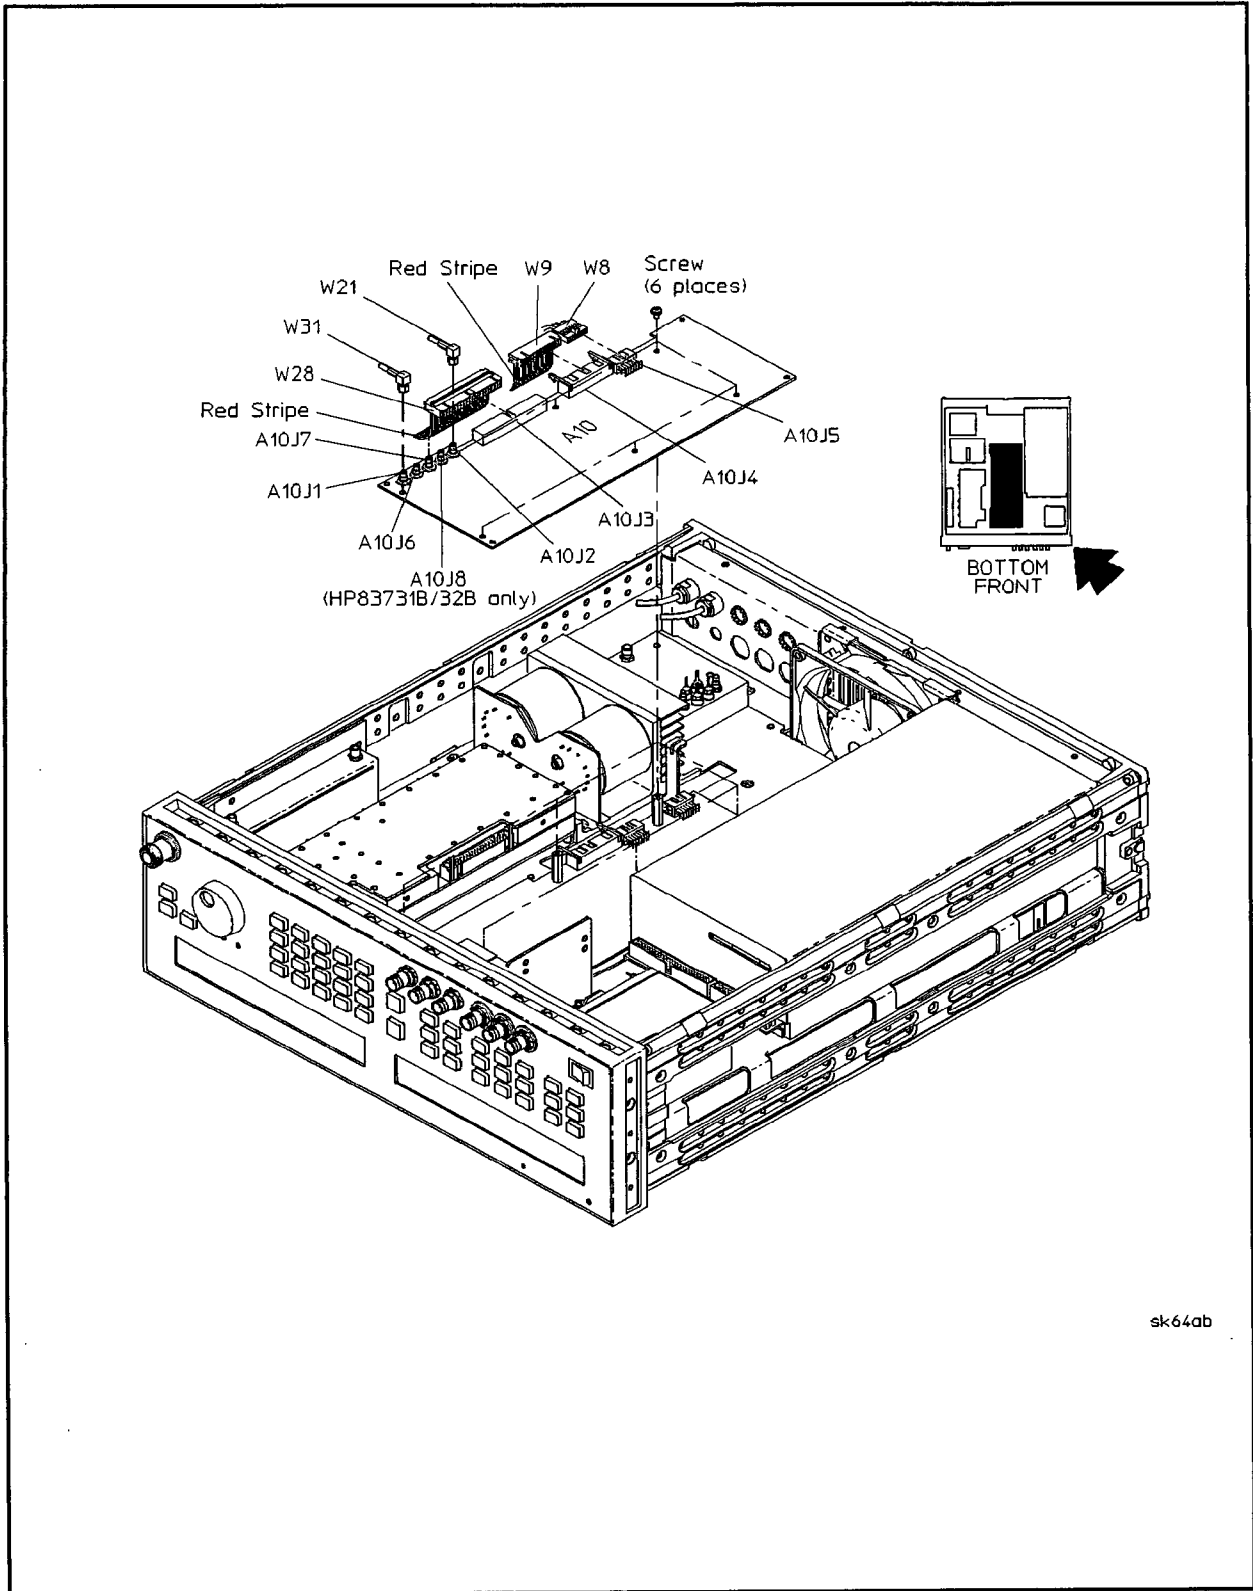

Figure 5-25. ALC Board Removal
3. In the introduction to this chapter, refer to the procedure "Flexible Coaxial Cables" and Figure 5-25. Then, using a 15/64 open end wrench, disconnect the following cables:
4. Refer to "Multi-wire Cables" and Figure 5-25. Then, disconnect the following cables:
5. Using a size 10 TORX® screwdriver, remove the six screws connecting the A10 assembly to the standoffs and the A9 assembly. See Figure 5-25.